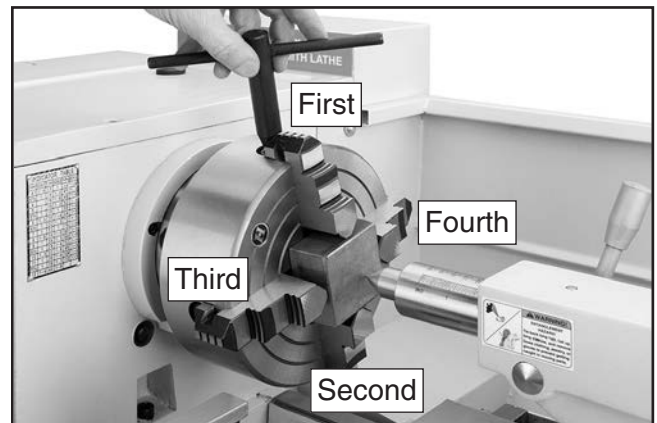

Figure 28. Centering workpiece (tool post removed for clarity).
5. Turn the tailstock quill so the dead center applies enough pressure to the center point of your workpiece to hold it in place (see **Figure 28**), then lock the tailstock quill.
7. Tighten each jaw in small increments. After adjusting the first jaw, continue tightening in opposing sequence (see **Figure 28**). Check frequently to make sure the required point on the workpiece has not wandered away from the spindle centerline due to applying too much pressure to a single jaw.